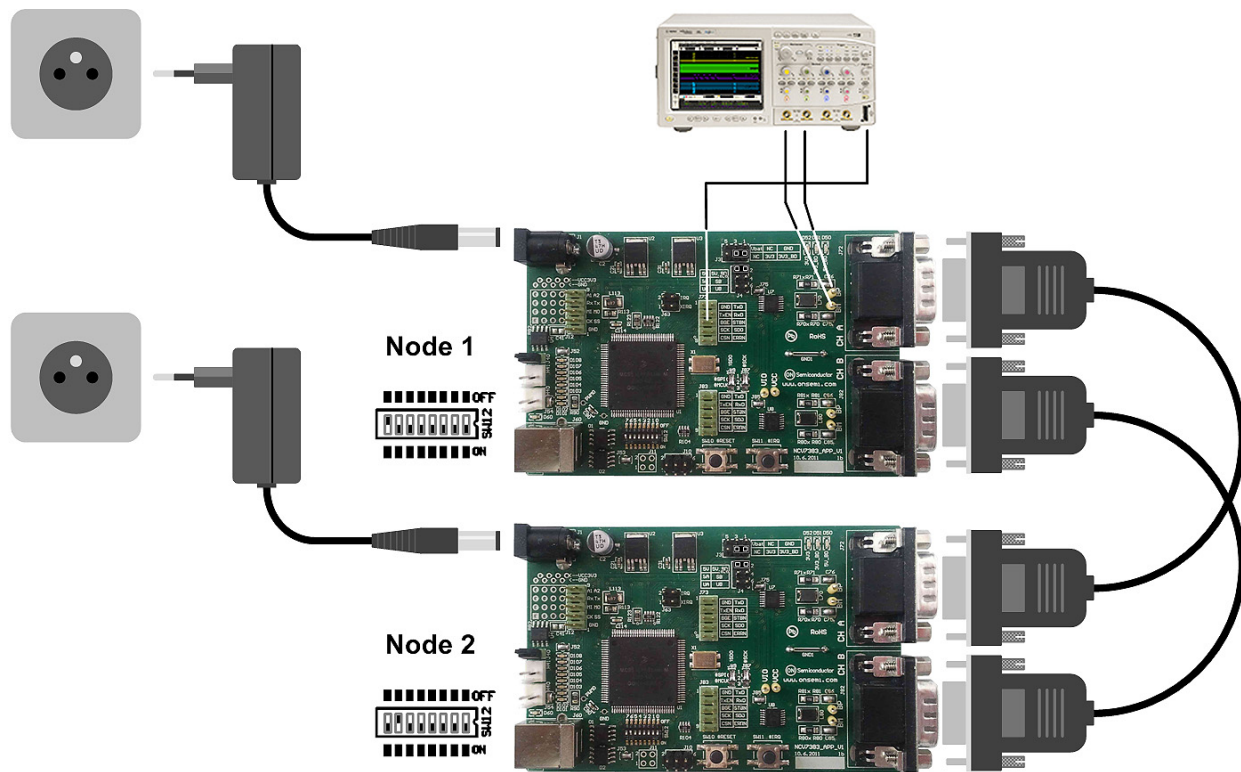

Figure 3. Basic NCV7383 Evaluation Board connection
4. Connect the boards according to Figure 3. Up to 5 boards with addresses 1 to 5 can be connected together.